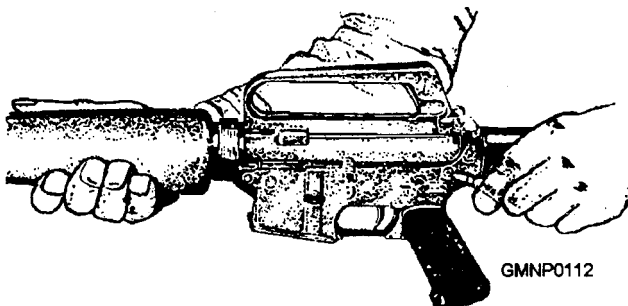
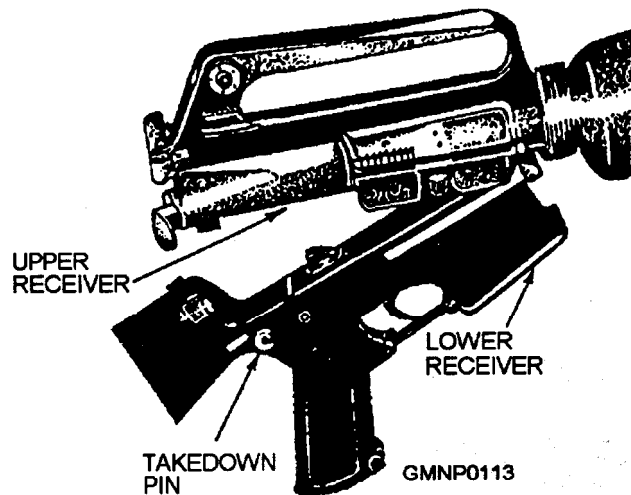

Figure 3-38.—Pressing the takedown pin to the right.
Figure 3-39.—Breaking the upper receiver away from the lower receiver.
2. Keeping the muzzle to the left, turn the weapon on its right side. Use a punch or the end of a cleaning rod (nose of cartridge used only as a last resort in the field) to press the takedown pin (fig. 3-38) until the upper receiver swings free of the lower receiver (fig. 3-39),